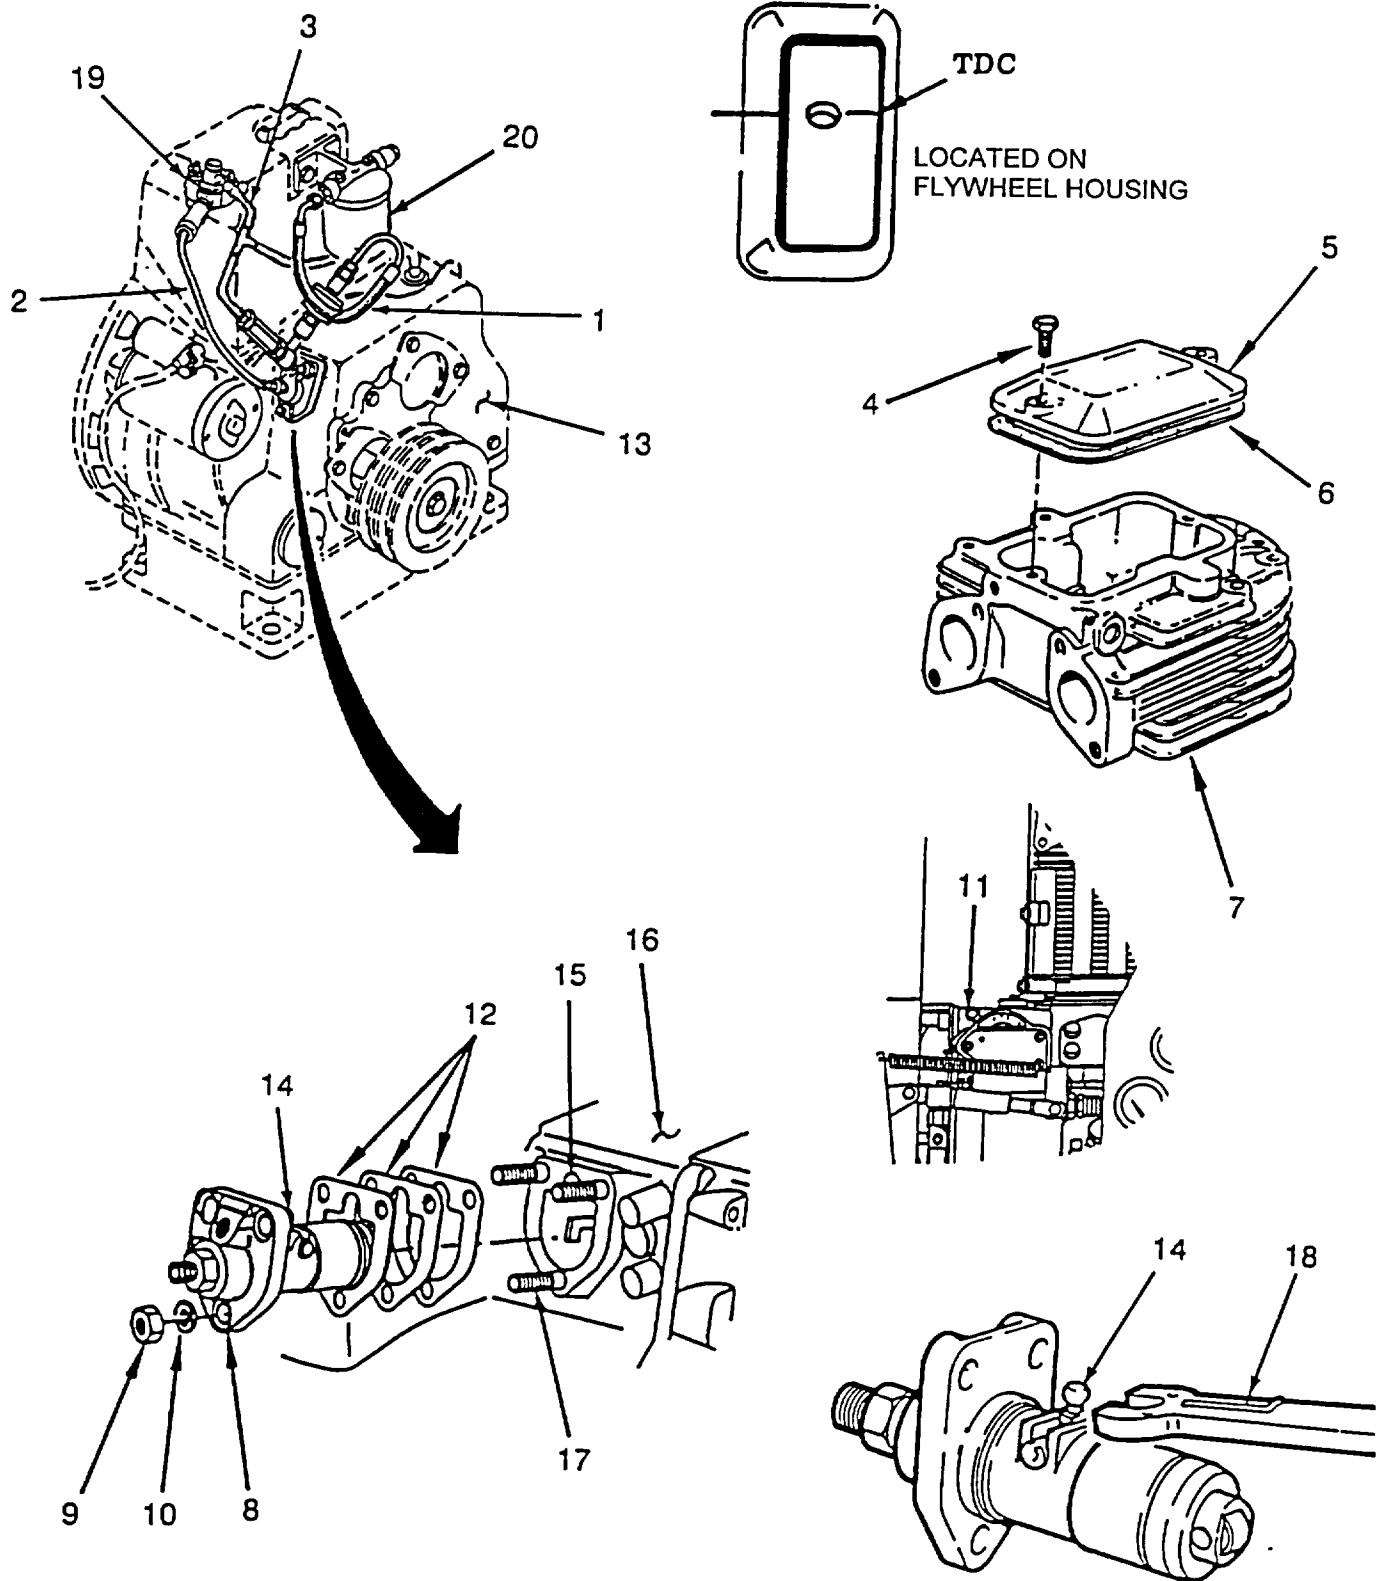

Figure 5-14. Fuel Injector Pump
(1) Removal. (Refer to Figure 5-14).
- (a) Remove fuel control solenoid valve assembly (1). (Reference para. 5-10.c.).
- (b) Remove fuel pipe assembly (2) and leak-off pipe assembly (3). (Reference para 5-10 a.).
- (c) Remove two screws (4), cover (5), and gasket (6) from cylinder head (7).
- (e) Remove three retainer nuts (9) and lockwashers (10). Discard lockwashers (10).